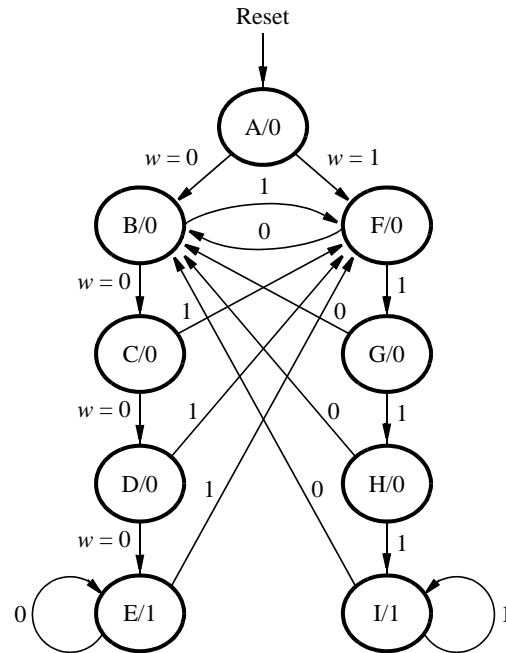

Figure 3: A state diagram for the FSM.
- (a) A state diagram for this new FSM is shown in Figure 3. For this part you are to manually derive an FSM circuit that implements this state diagram, including the logic expressions that feed each of the state flip-flops. Note that the one-hot code enables you to derive these expressions by inspection. To implement the FSM use nine state flip-flops called y_8, \dots, y_0 and the one-hot state assignment given in Table 1.